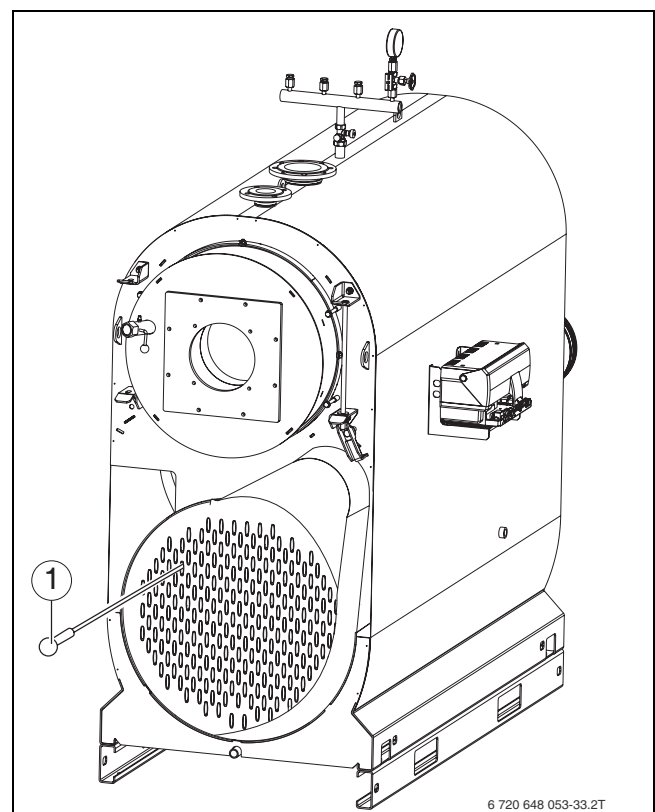

Fig. 30 Cleaning the flue gas collector
- ▶ Clean the secondary heating pipes with a brush (→ Fig. 30, page 27).